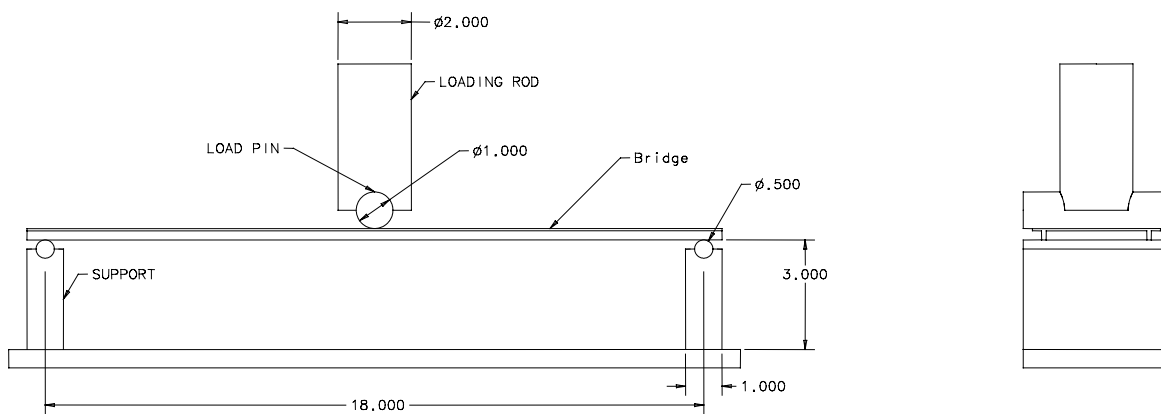

Figure 1
4. The test fixture is shown in **Figures 1 and 2**. The bridge must be constructed so that it can be simply supported on the supports with a span of **18-in.** There must be sufficient clearance for the one **1-in.** diameter-loading pin and **2-in.** diameter loading rod to be placed across the road surface at mid-span to apply force to the bridge.